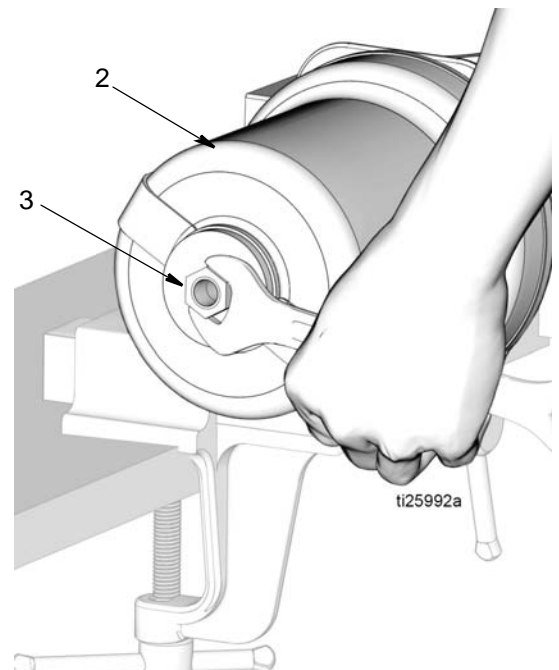

FIG. 16
12. Remove piston stop nut (3) from top of the air cylinder (2) (FIG. 16).